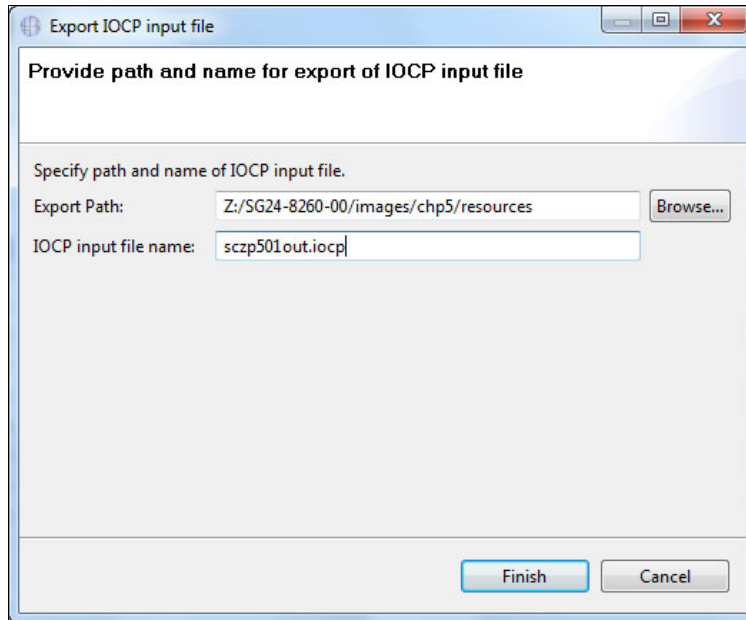

Figure 6-107 CMT - Export IOCP File
2. Enter the Export Path and IOCP Name for the IOCP output file and click **Finish** (Figure 6-107).